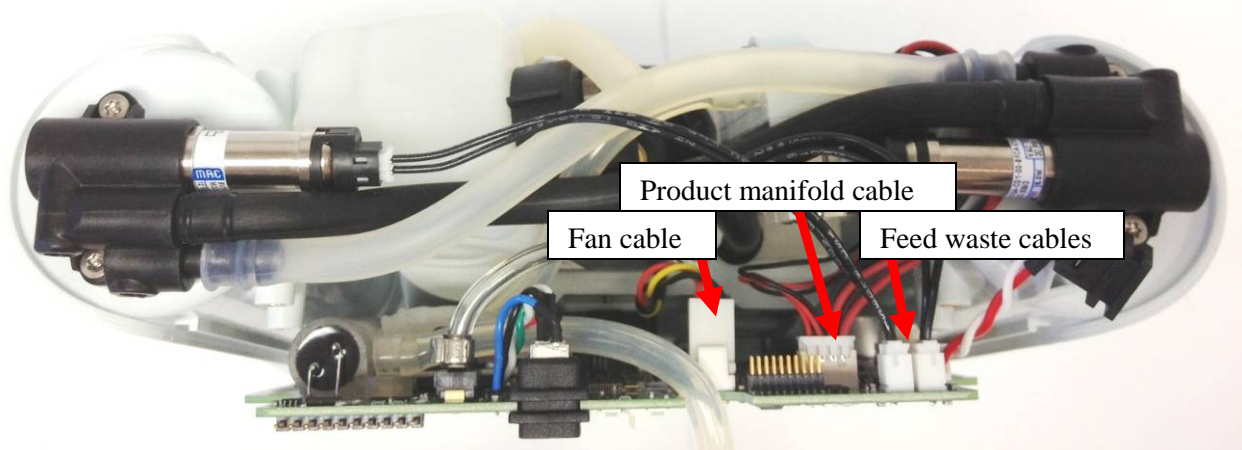
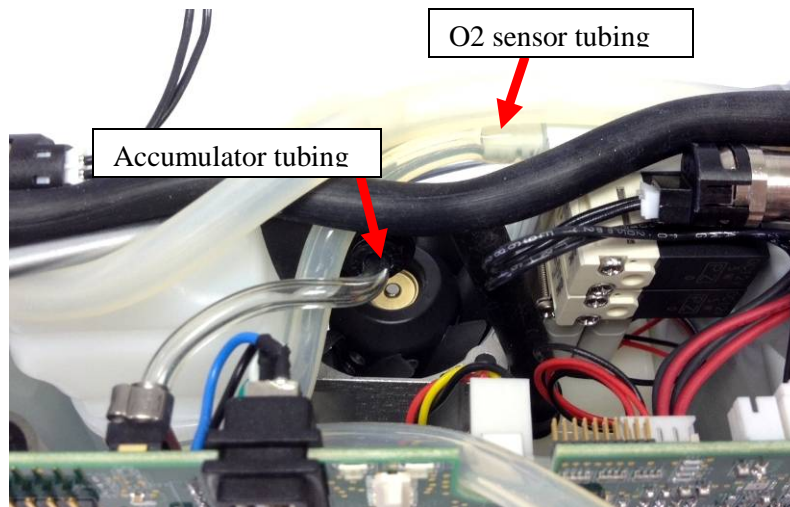

Figure 11: Disconnect all cables that connect device to motherboard
Figure 12: Disconnect all tubing that connect device to motherboard
3. Carefully pull the motherboard about a half inch away from the device, making sure not to bend it in any way. With the cables and tubing exposed, gently unplug the two feed waste manifold cables, the product manifold cable, and the fan cable from the motherboard (Figure 11).
4. Unplug the oxygen sensor tubing from the product manifold by pulling the tube off of the barb. Also unplug the accumulator tubing from the accumulator cap by pushing down on the retaining ring of the quick connect while pulling gently on the tubing (Figure 12). *Pulling the tube too hard will result in breaking the pressure sensor free from the circuit board.*
1. To install the new motherboard, make sure the screw holes are aligned with those on the chassis before reattaching the accumulator tubing and the oxygen sensor tubing (Figure 12). Make sure the oxygen sensor tube is oriented under the two T tubes. Next, reattach the feed waste manifold cables, the product manifold cable, and the fan cable (Figure 11). Gently pull on each tube/cable to ensure a complete connection.